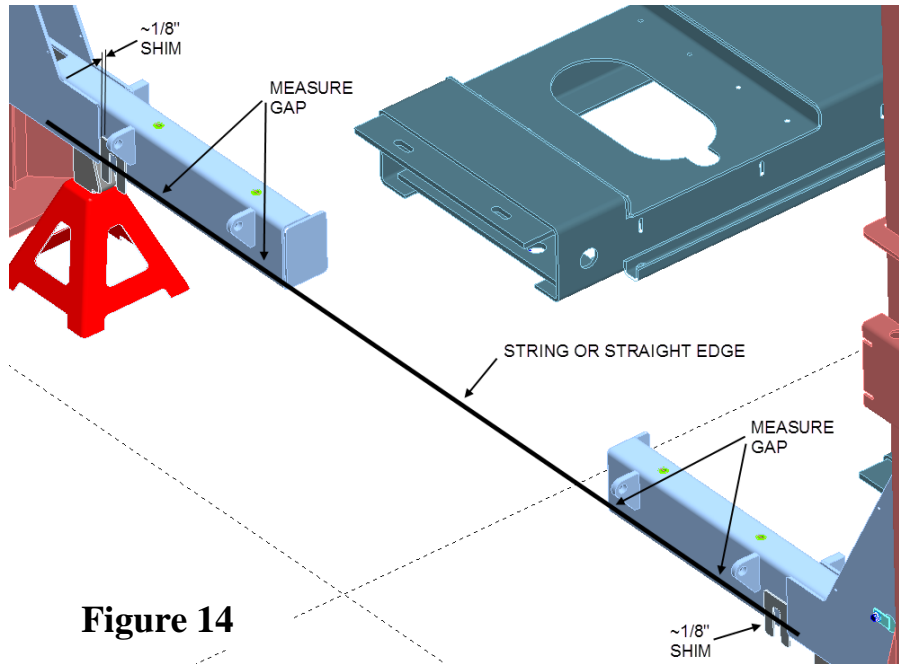

Figure 14
- Use a straight edge (string line) along front side of beams along with 1/8" column shim provided and ensure equal spacing throughout entire area of both beams (**Fig.14**).